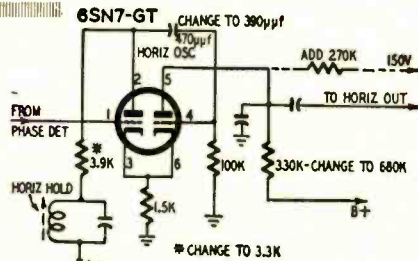

Fig. 1—Stewart-Warner model 9200-A horizontal scanning multivibrator.
1. Change the capacitor connected to one plate of the horizontal scanning multivibrator, pin 2 of the 6SN7-GT, from 470 μf to 390 μf , as shown in Fig. 1.